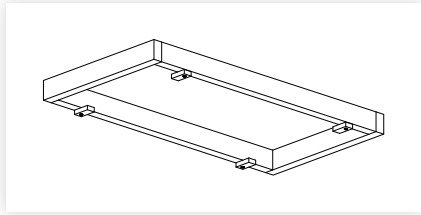

figure 7
1. Screw four temporary cleats approx 80mm x 40mm into your timber frame (figure 7). Ensure cleats can be rotated.